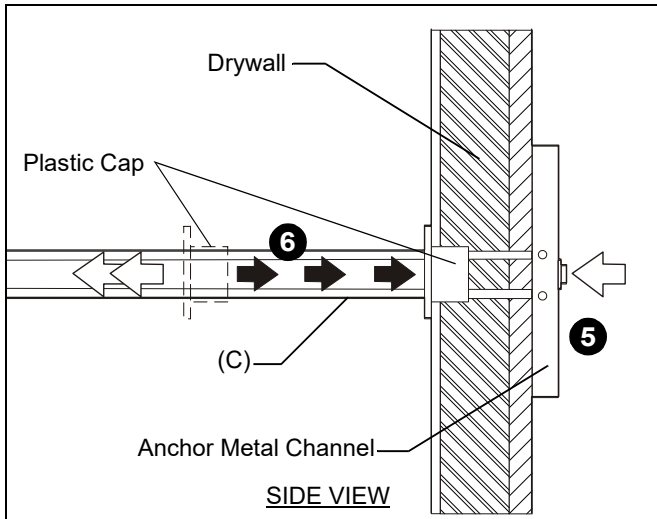

Figure 8
- Use four 1/4-20 x 1 3/4" Phillips pan machine screws (D) and 1/4" washers (E) to secure kiosk bracket (G) to wall. (See Figure 8)
5. Holding plastic straps on anchor (C), pull anchor away from wall until channel rests flush behind wall making sure anchor channel is positioned vertically on stud. (See Figure 8)
6. Slide plastic cap on anchor (C) towards wall until flange of cap is flush with wall. (See Figure 8)